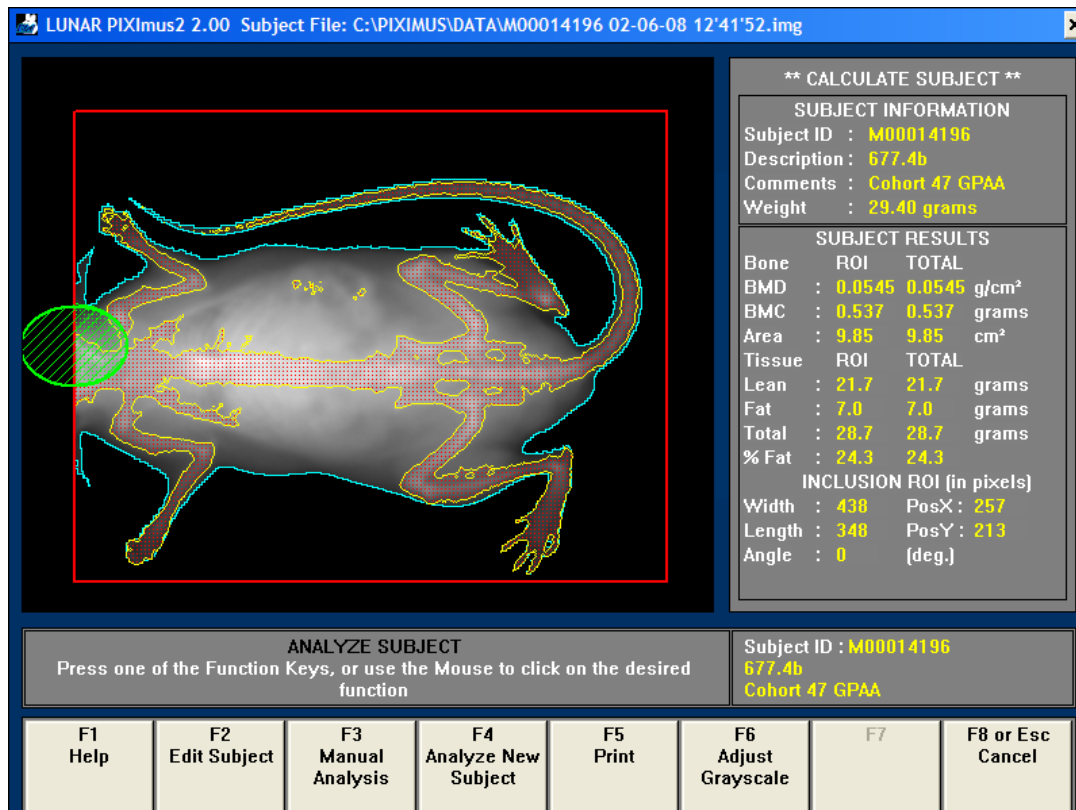

Figure 1. Screenshot of the Lunar PIXImus2 file prior to analysis.
- 5.2. Select the file to be analysed from the appropriate folder and press *OK*. Wait for the file to load. An example of the file is shown in Figure 1.